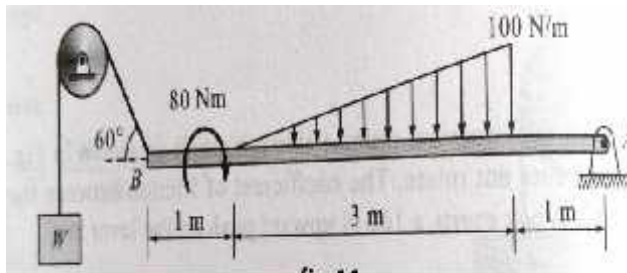

fig:11
11. Determine minimum weight of block required to keep the beam in horizontal equilibrium as shown in fig:11, assuming rough pulley with coefficient of friction as 0.2